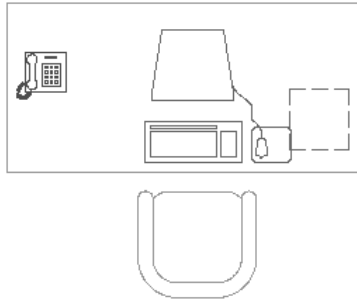

Figure 18-14: A set of office furniture.
1. Open **ab18-f-1.dwg** from the CD-ROM. This is a set of office furniture, as shown in Figure 18-14.